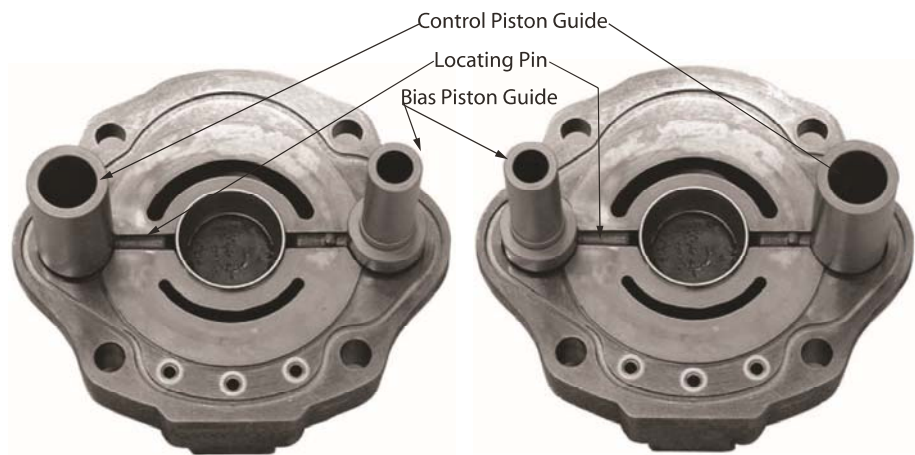

Figure 4A
- Apply Loctite Primer 7469 to the guide threads and allow to dry. Install unlubricated o-rings on the control guide and bias guide. Apply Loctite 272 to the guide threads. For right hand rotation the control guide is installed nearest to the dowel pin (figure 4A). For left hand rotation the bias guide is installed nearest to the dowel pin (figure 4B). Torque the control and bias guides as specified in Chart 3